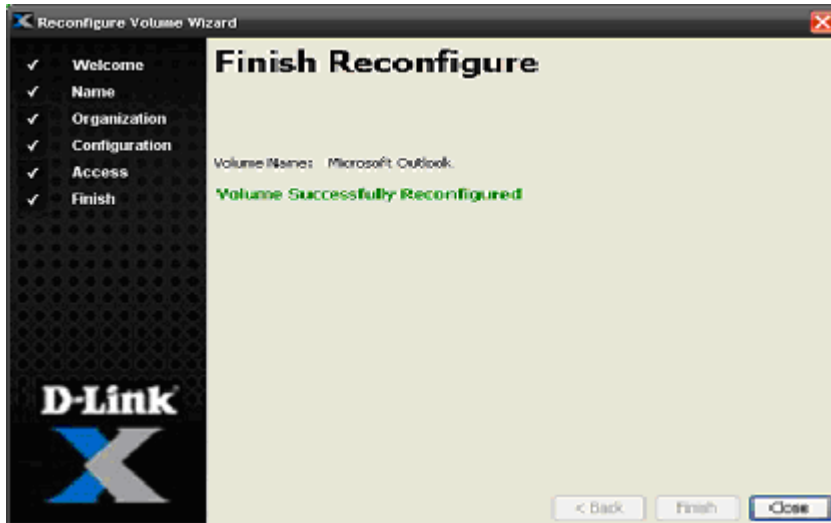

Figure 4-28. Finish Reconfigure Screen
4. Select **Finish** in the Ready to Create Volume screen to begin the reconfiguration process. The **Finish Reconfigure** screen shown in Figure 4-28 appears.